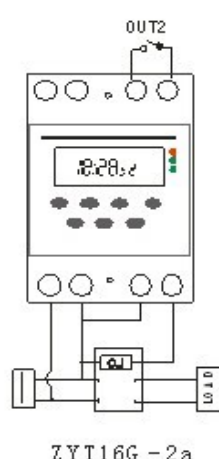

fig 2
2. The power of controlled electric should be supplied by single-phase, but the power consumption is more than the switch's rating capacity (resistance load 3A). It needs to connect to AC contactor. Then connection is showed as fig.2.